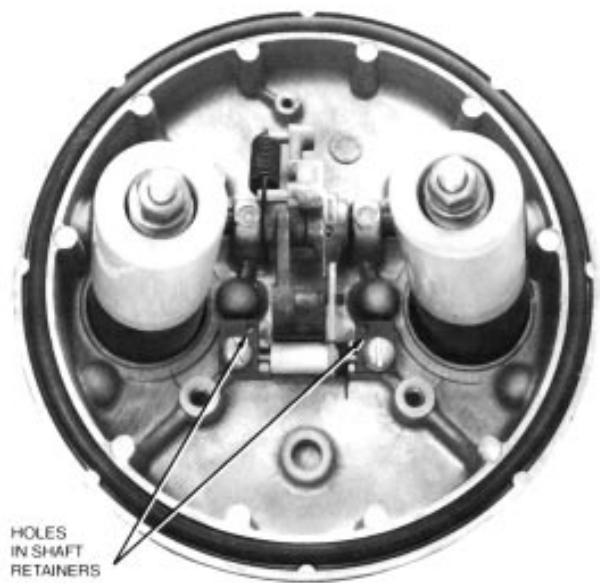

Figure 22.
- E. Hook the torsion spring on the latch lever assembly. Be sure the two shaft retainers are positioned as in Figure 22, and that the latch lever is retarded when moved away from the head casting.